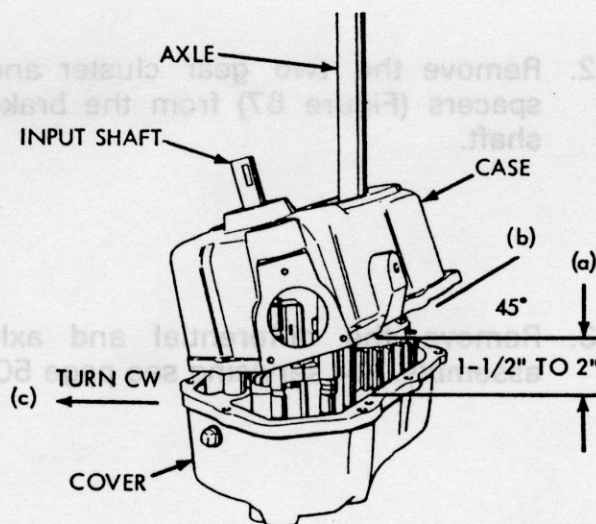

Figure 64
8. Remove the case (Figure 64) from the cover as follows: